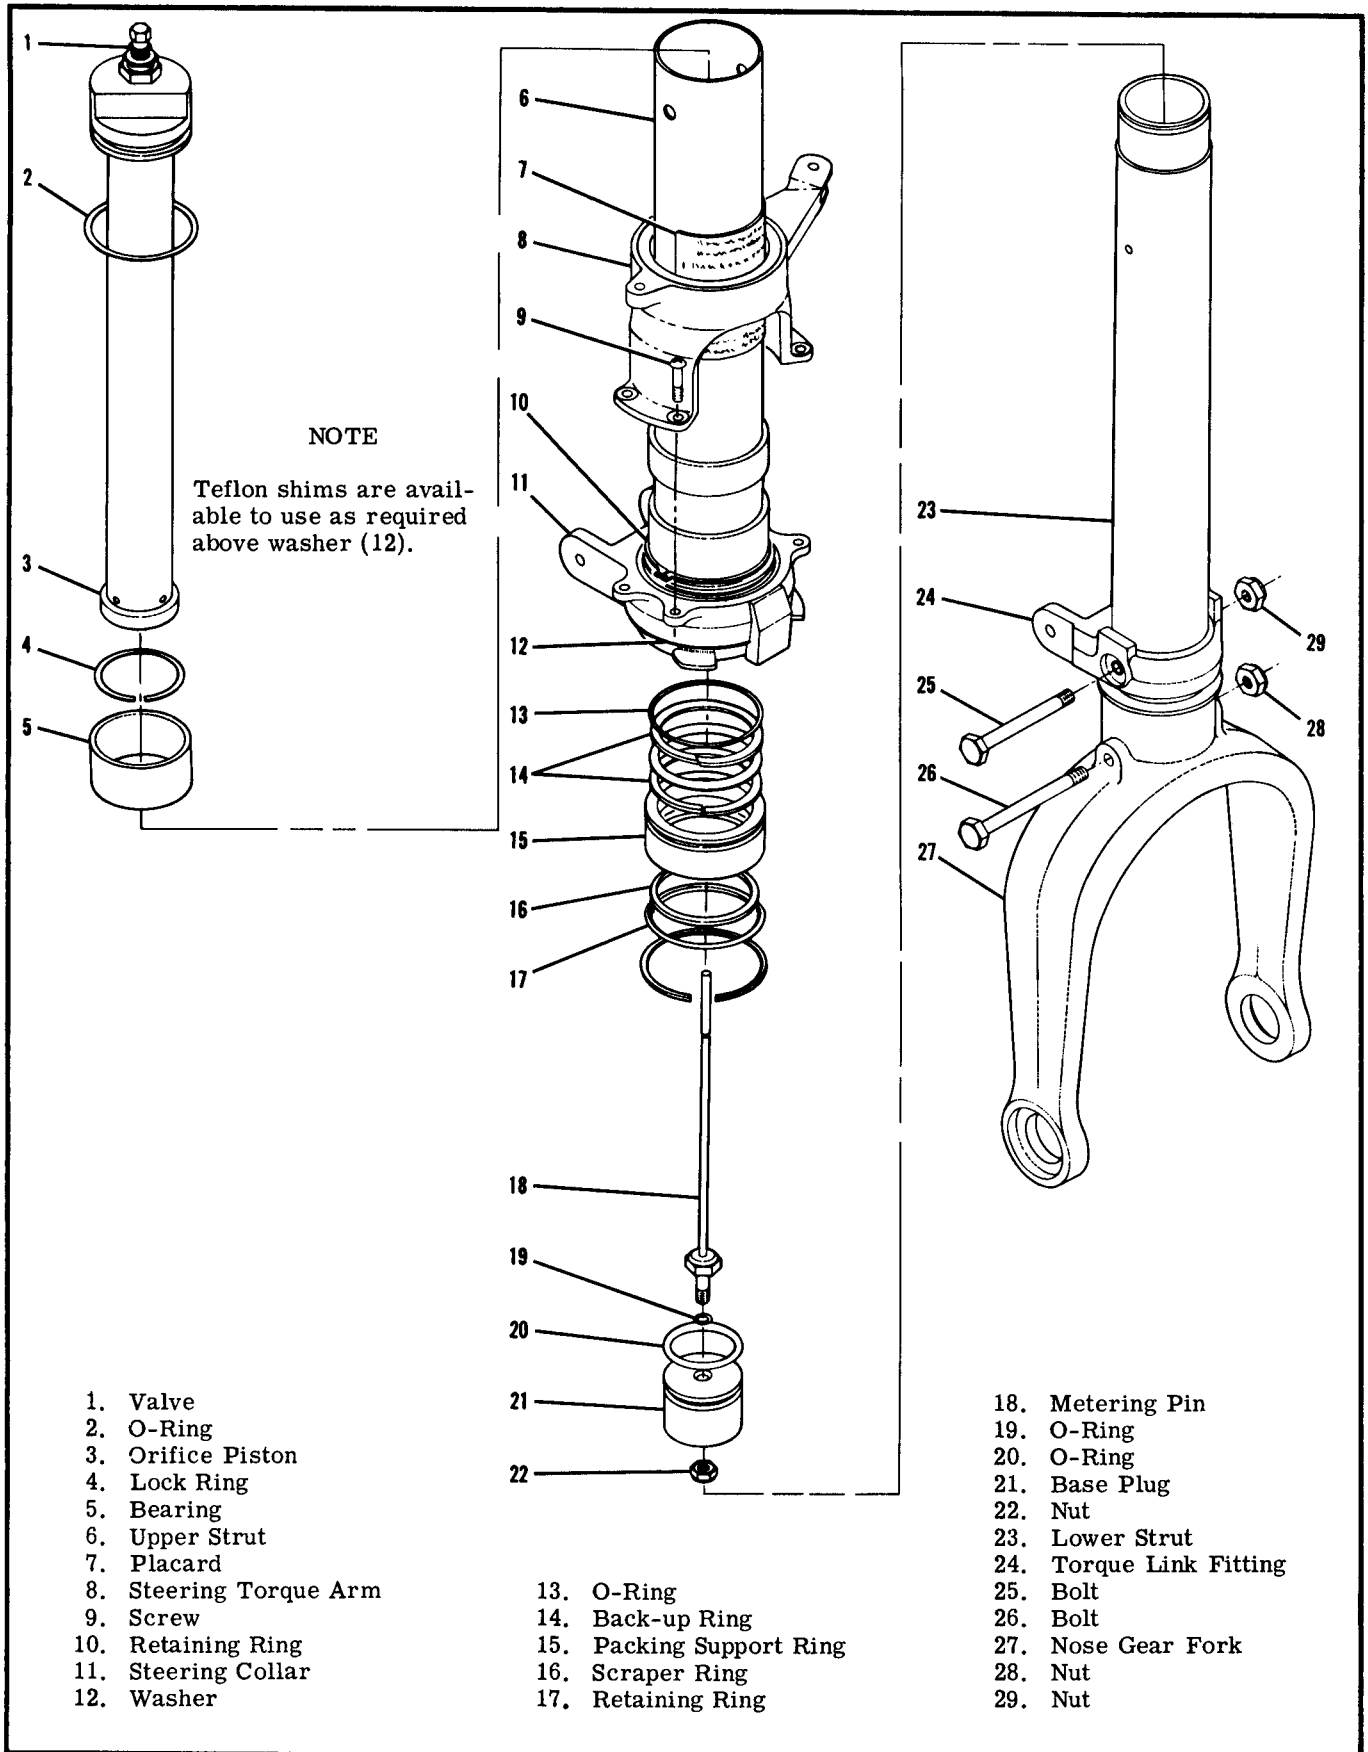

Figure 5-15A. Nose Gear Strut (Model 182, 1962 & on)
j. Clean and check needle bearings in steering arm assembly (9) and pack with MIL-L-7711 grease. Slide washer (10), teflon shims (if required to eliminate excessive clearance), and the steering arm assembly down in position on strut (7) and secure with retaining ring (8). If the needle bearings are defective, the entire steering arm assembly should be replaced. The 182 (1962 and on) has two needle bearings in this area, one in steering collar (11, figure 5-15A) and one in steering torque arm (8, figure 5-15A). On this airplane, the lower strut-to-fuselage forging must be in place before the steering torque arm is